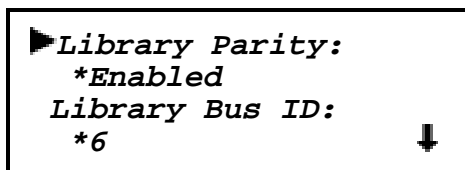

Figure 2-26 Set SCSI Submenu
4. To select a configuration option, press the ▲ or ▼ button on the control panel until the ► on the display is next to the option you want to change. In this case, let us choose Set SCSI. Press the **Enter** button to display the choices for that option. The submenu in Figure 2-26 appears.
Note: Take a moment to look closely at the submenu in Figure 2-26. Note that the ► on the display is next to line 1, *and* that line 2 is indented. This tells you that Figure 2-26 is a *two-tiered menu*. The ▲ and ▼ buttons work on two levels in this kind of menu, which is typical of many submenus of the Configure Menu. The first level is as follows: If you press the ▼ button, the ► moves to line 3. If you press the ▲ button, the ► moves back to line 1.